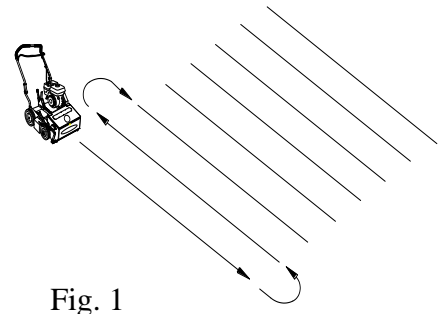
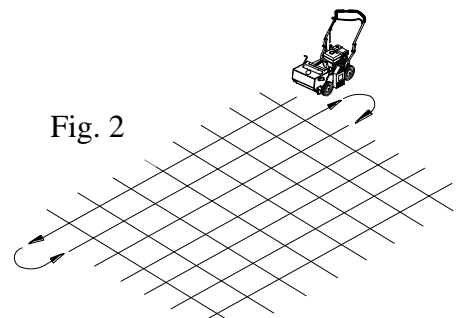

Fig. 1
Fig. 2
**VERTICUTTING / OVERSEEDING:** Mow the lawn to shorter than the normal cut height before starting (i.e. approximately 2" tall for fescue grass). For the best result, Slice/Overseed in criss-cross pattern (See Fig. 1 and See Fig 2).